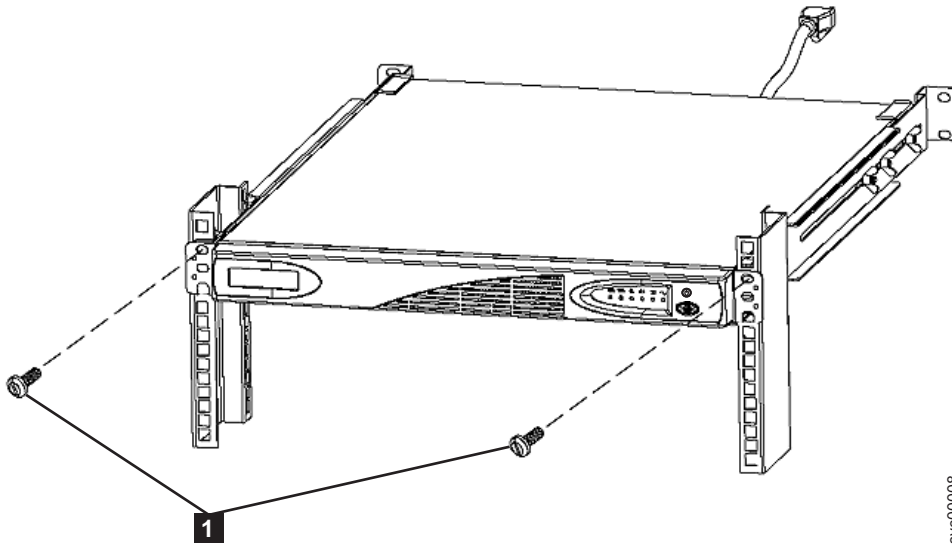

Figure 312. Removing the front screws from the 2145 UPS-1U
1. Loosen and remove the two M6 × 10 screws from each side of the 2145 UPS-1U. See **1** in Figure 312.